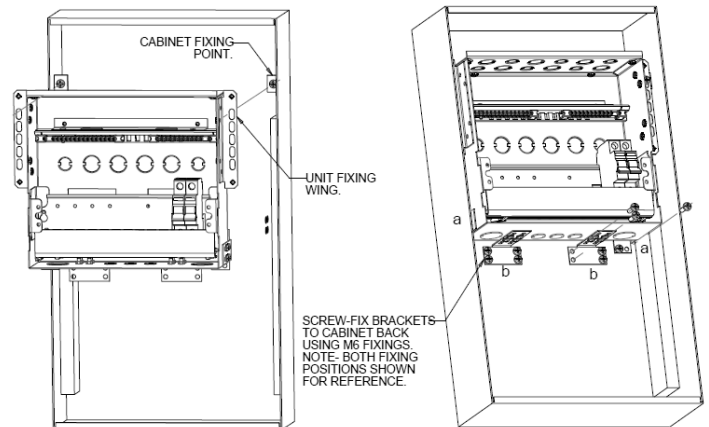

Fig. 1.2
- Mount the unit into its installation position. Secure the wing fixings first using M6 fixings. Both 'L' brackets should then be screw-fixed with M6 size screws (not supplied) to the cabinet back wall. See Fig. 1.2.